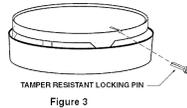

Figure 3
- 6.7 To make your carbon monoxide alarm tamper resistant, a locking pin has been provided in the bag with the screws and anchors. Using this pin will deter children and others from removing the alarm from the mounting plate. To use the pin, insert it into the hole in the side of the alarm after the alarm has been installed on the mounting plate (see fig. 3). Note the tamper resist pin will have to be removed in order to change the battery. Using long nose pliers pull the pin out of the hole, it is now possible to remove the alarm from the mounting plate. Test alarm immediately following installation and weekly thereafter for proper operation by pushing the test button until a short beep is heard (approximately three seconds). Release the button. The alarm will then test itself for proper operation and the RED LED will flash 5 times. At completion of the self-test, the alarm will sound 2 patterns. The alarm then resumes normal operation.
**IF TAMPER RESISTANT PIN HAS BEEN USED, REFER TO STEP 6.7 UNDER INSTALLATION INSTRUCTIONS FOR REMOVAL INSTRUCTIONS. (see Figure 3)**